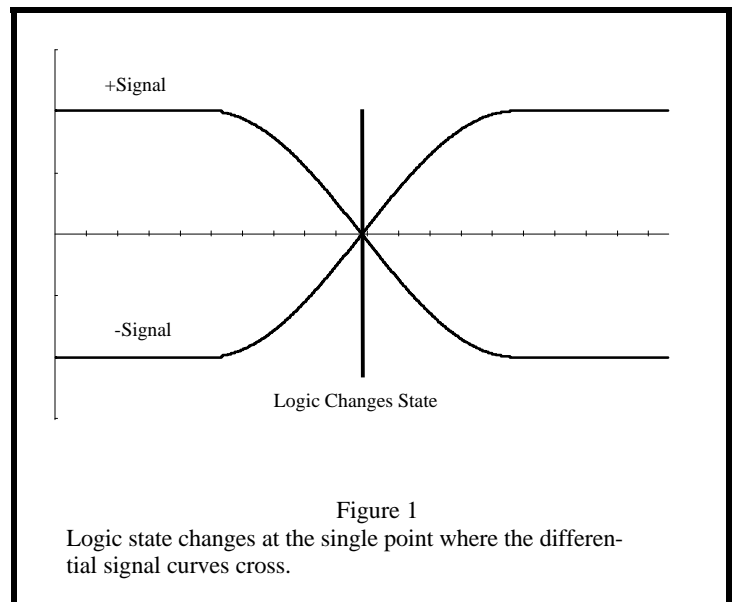

Figure 1
**Differential Signal Advantages:** Single-ended signals are normally referenced to some sort of “reference” level. This may be the positive or ground voltage, a device threshold voltage, or another signal somewhere. A differential signal, on the other hand, is referenced only to its pair. That is, if the voltage on one trace (+ signal) is higher than on the other trace (- signal), we have one logical state, if it is lower we have the other logical state (see **Figure 1**). This has several advantages: